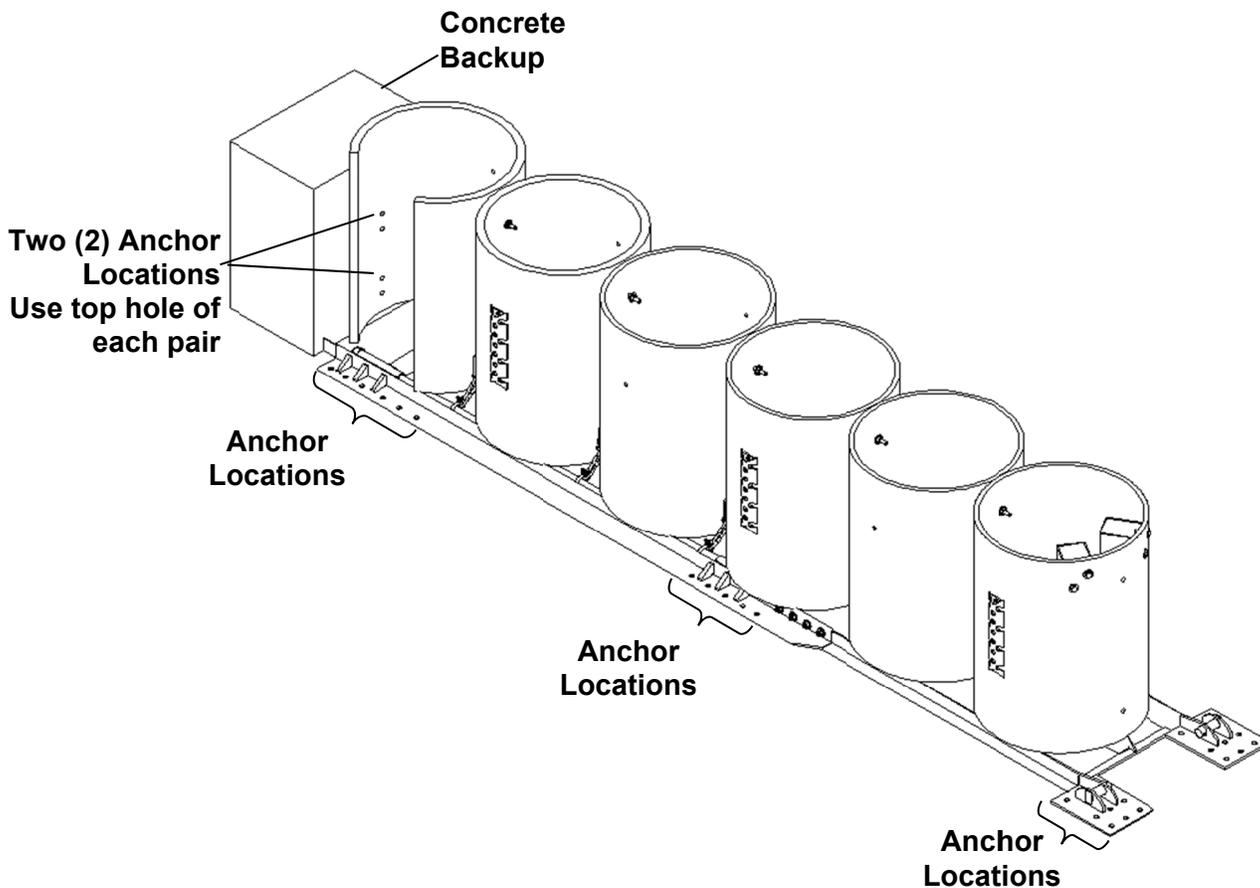

Figure 18 - Anchoring the System - Concrete Backup
Use the top holes of each pair in the Rear Cylinder as a template to locate and drill two (2) holes, 22 mm [7/8"] diameter x 150 mm [6"] deep into the Concrete Backup (see Figure 18). Use an approved adhesive kit with instructions to secure the 3/4" diameter x 7 1/2" long studs using instructions included with kit (see p. 10). After adhesive has cured, use 3/4" nuts and flat washers included with the approved adhesive kit to attach the Cylinder Assembly to the Concrete Backup (see Figure 18).
Use the holes in the Base Track as a template to locate and drill holes, 22 mm [7/8"] diameter x 150 mm [6"] deep into the concrete pad or roadway surface (see Figure 18). Use approved adhesive kits to attach 3/4" diameter x 7 1/2" long studs using instructions included with kit (see p. 10). After adhesive has cured, use 3/4" flat washers and nuts provided with kit to anchor Base Track to foundation.